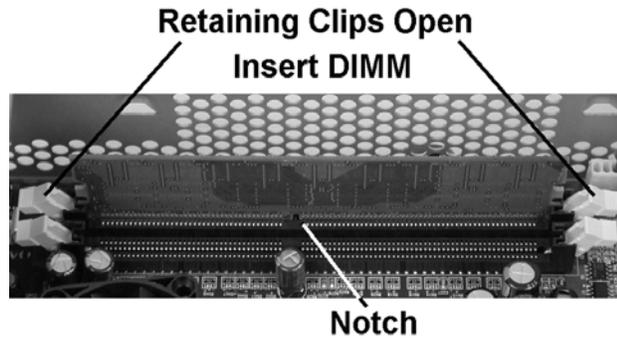

Figure 3-27: Lining up the DIMM with the Socket
4. Make sure each retaining clip is in the open position. Figure 3-27. Note the location of the notch on the DIMM and the corresponding land on the socket. Place the DIMM in the socket. Press down on each end to lock the DIMM in place.
If you encounter resistance when installing the DIMM, **DO NOT FORCE IT**. Damage to the socket could result. Refer to Figure 3-27 and check the notch on the DIMM socket to ensure that you are installing the correct type of device.